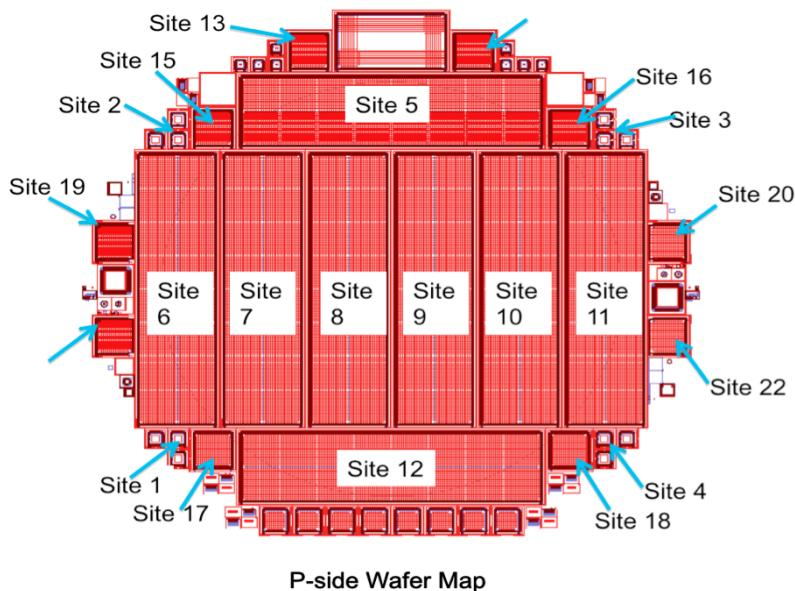

Figure 7: Site layout for 6-inch wafer.
- (a) First move the crosshair to Site 1 on the wafer. For the 6-inch wafers this is the diode in the lower left corner as shown in Figure 7.